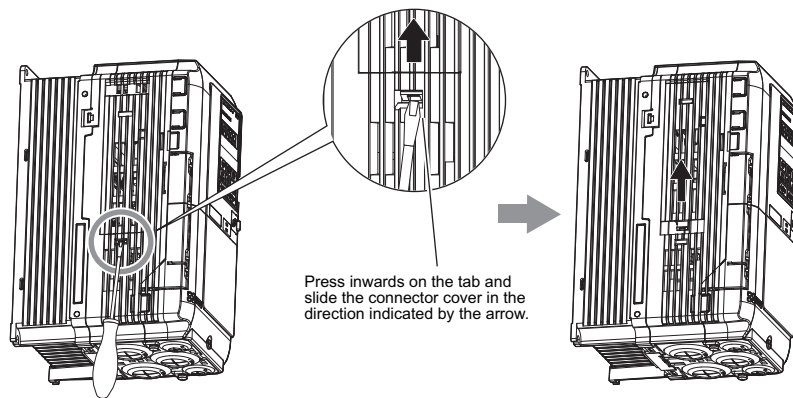

Figure 4.23 Removing the Connector Cover
1. Insert the tip of a screwdriver into the opening on the edge of the CN19 connector cover. Slide the cover off the drive as indicated in Figure 4.23.